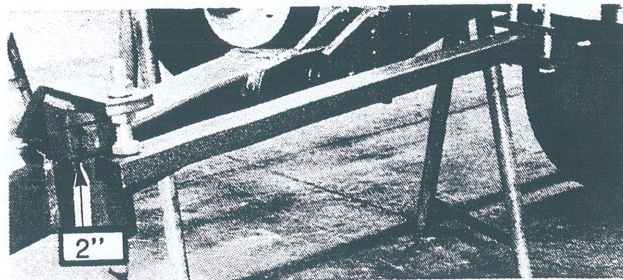

Figure 14
1. Adjust spring bar adjustment to 2" (2 1/4" maximum). See Figure 14.